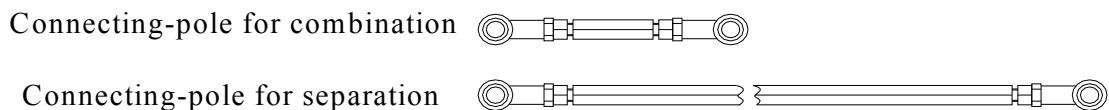

Fig 7.7.2
- d. In separation position, the connecting- pole must be replaced the longer one. Refer to Fig. 7.7.2 (The distance between the two fabrics should be over 12", from the middle of needle bed is each 6" to left and right side.)